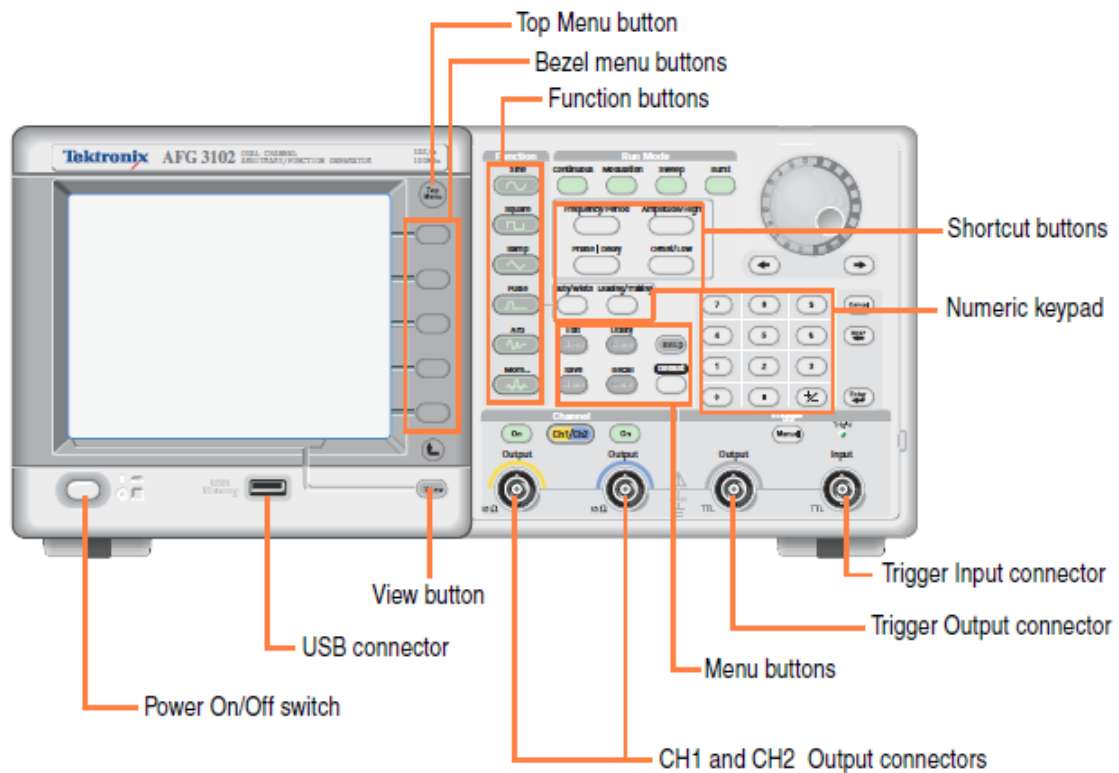

Figure 1. Tektronix AFG3021B Single Channel Function Generator.
- Push the front-panel **Frequency/Period** shortcut button. Keep in mind that this is a toggle button switching between frequency input and period input. To change the frequency value, use the keypad to enter 2 and then push the Bezel menu button (as labeled in Figure 1) to select kHz.